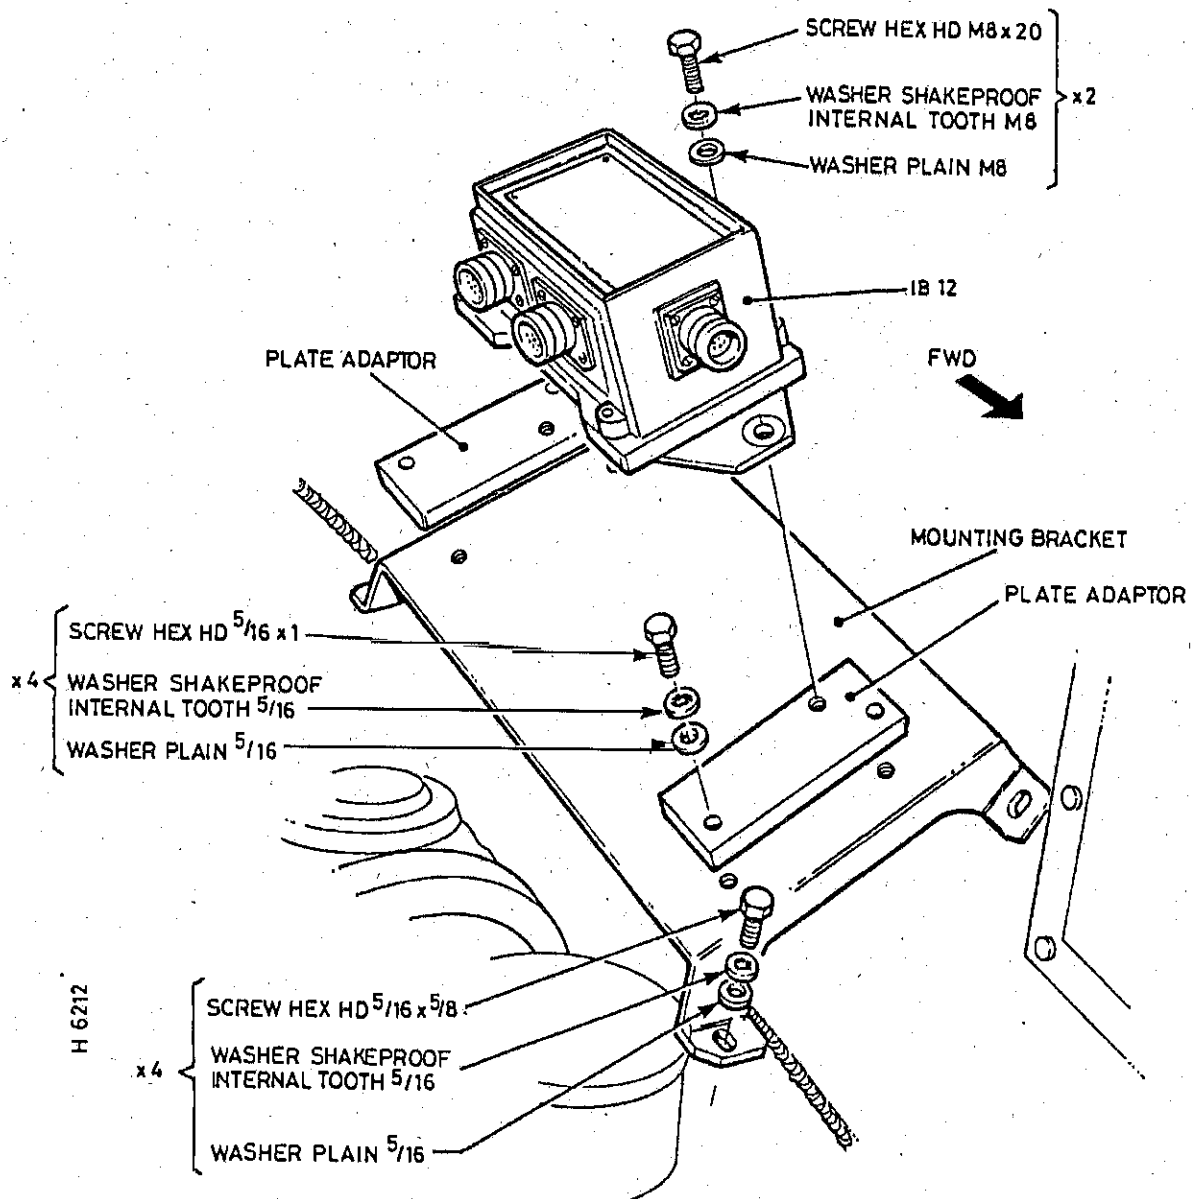

Fig 5 IB12 mounting
20 Secure Bracket Mounting (3) to the forward r.h.s. position as shown in Fig 5, using four off each 5/16 UNC screws, 5/16 shakeproof washers and 5/16 plain washers. (Operation 7).